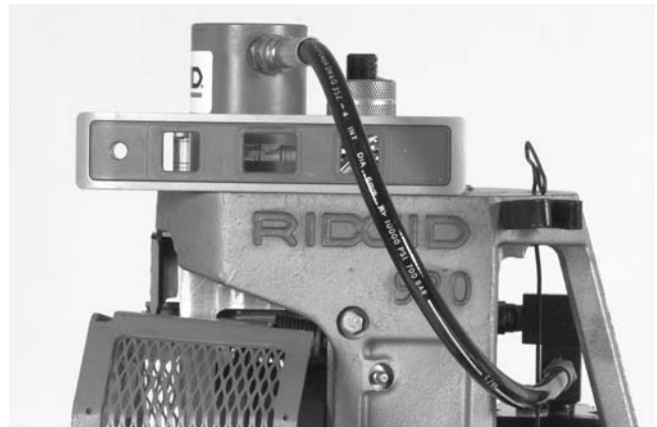

Figure 7 – Leveling Groover
8. Check that the groover is level and the unit is stable (Figure 7).